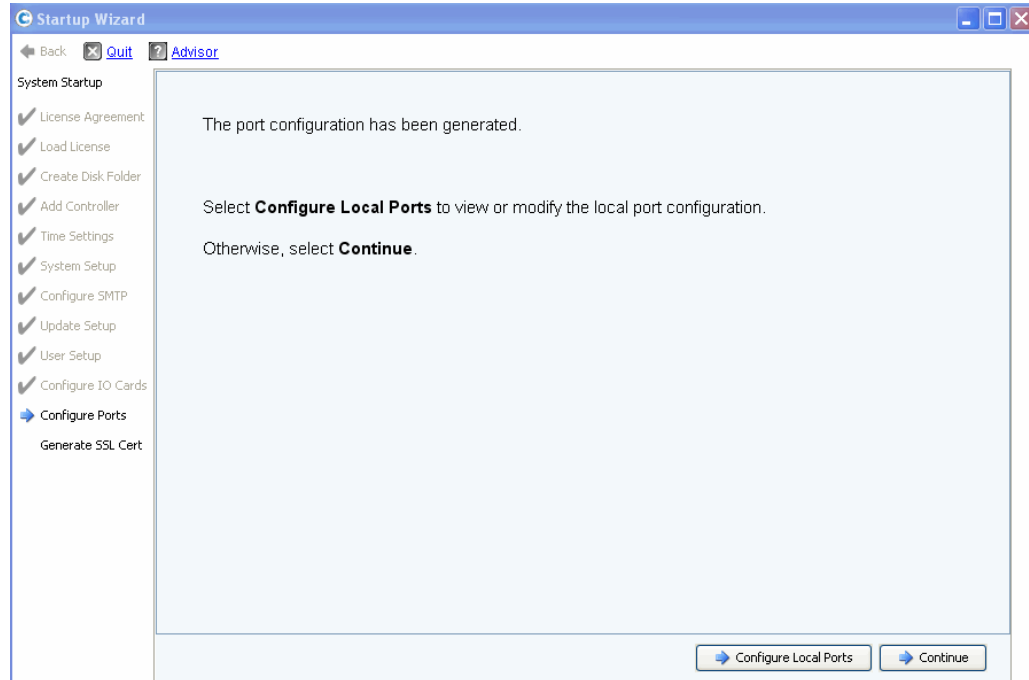
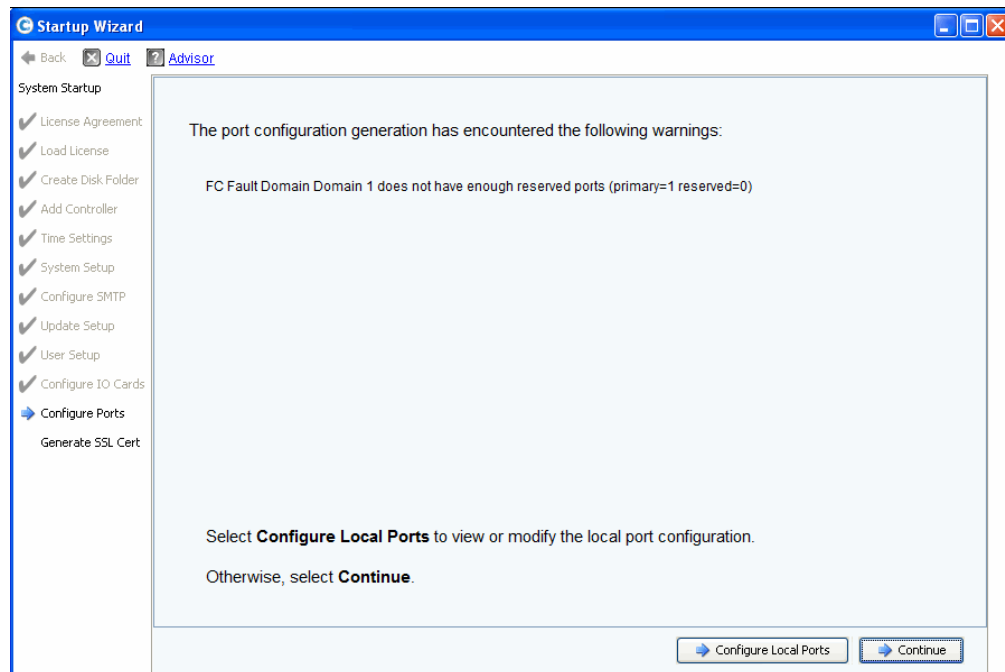
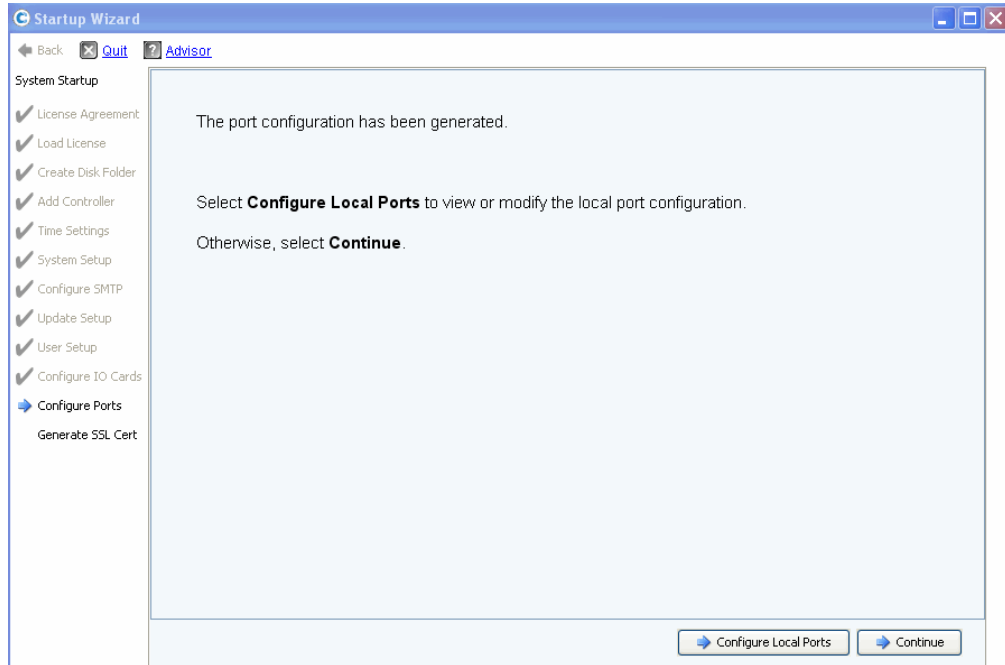

Figure 20. Port Configuration with no Warnings
Figure 21. Port Configuration with a Warning
Figure 30. Initial Port Configuration Generated with no Warnings
If the validation is successful, the confirmation window shown in Figure 20 on page 27 appears. If the validation fails, the window displays warnings as shown in Figure 21 on page 27.
- No iSCSI ports in Virtual Port Mode: While the initial port configuration is being generated, the Startup Wizard displays a window showing progress. After the configuration has been generated, it is automatically validated. If the valid at on is successful, the confirmation window shown in Figure 30 on page 35 appears. If there are warnings, a similar window appears listing errors.
While the initial port configuration is being generated, the Startup Wizard displays a window showing progress. After the configuration has been generated, it is automatically validated. If the validation is successful, the confirmation window shown in Figure 30 on page 35 appears. If there are warnings, they will appear in a similar window with errors listed. See example in Figure 21 on page 27.
- 4 Click **OK** to confirm any changes. The configuration is automatically validated. If the validation is successful, the window shown in Figure 30 on page 35 appears.
After the configuration has been generated, it is automatically validated. If the validation is successful, the confirmation window shown in Figure 30 on page 35 appears.